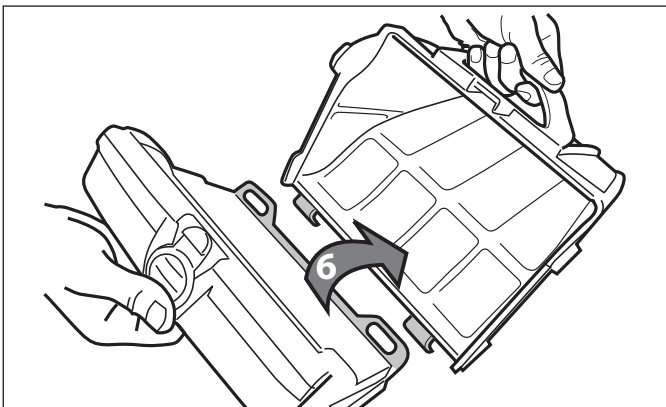

Figure 30. Remove Filter Canister
8. Separate the filter canister from the filter support (6), as shown in Figure 30.